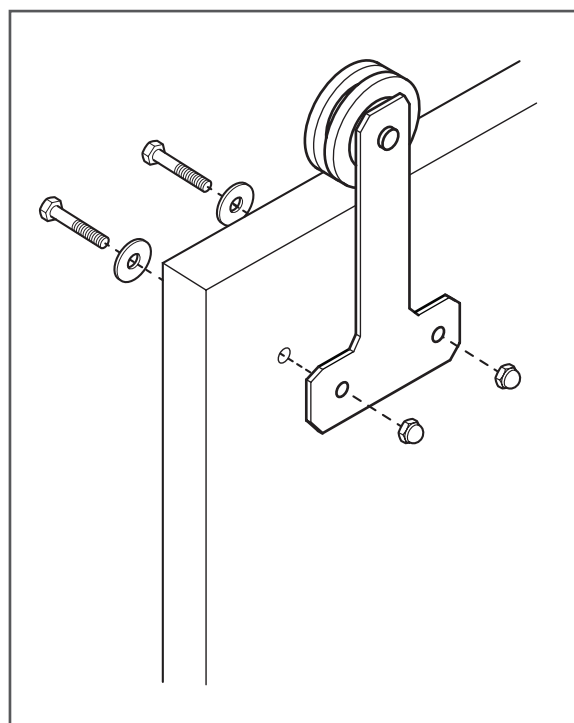

Figure 6
9. Install the hangers to the front of the door using lag bolts, washers, and acorn nuts (provided) (figure 6).